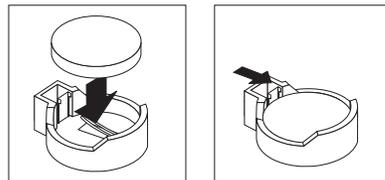

Figure 27. Installing the battery
- b. Press the battery down into the socket (see Figure 27) until it clicks into place. Make sure that the battery clip holds the battery securely.